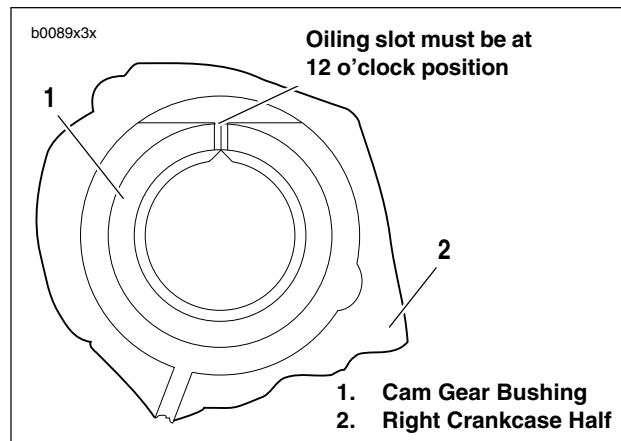

Figure 3-67. Cam Gear Bushing Installed in Crankcase
1. See Figure 3-67. Each cam gear bushing (1), to be installed in right crankcase half (2), must be positioned in crankcase bore with its oiling slot at exact top of bore (12 o'clock position).
1. Separate two halves of crankcase, if not already accomplished. Place right crankcase half on flat surface with gearcase side upward. Bushing to be reamed must be oriented as shown in Figure 3-67.